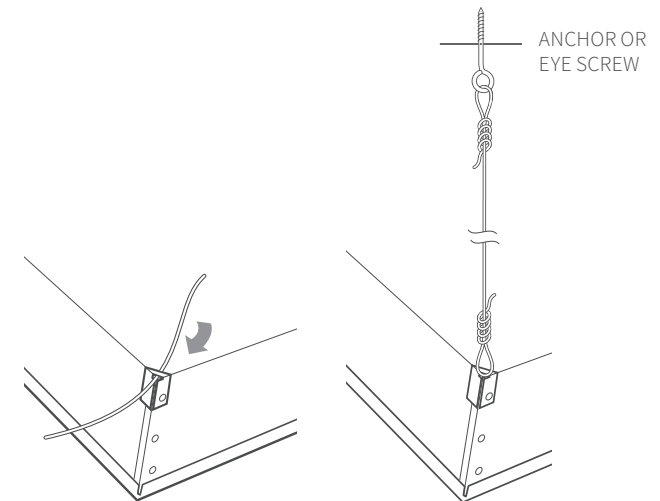

FIGURE 7:
6. Loop the other end of the safety wire through one of the tabs on the TCQ (located in opposite corners). Pull the wire through until it is taut and twist it around itself at least five times to secure the TCQ and cut off any excess wire if needed (see figure 7).